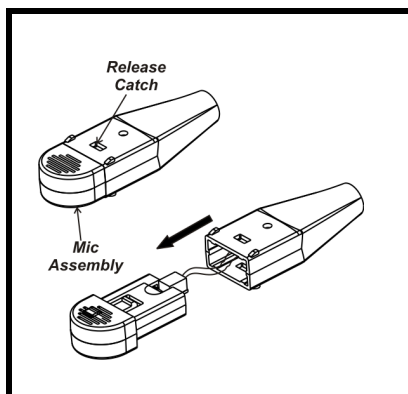

FIGURE 7. Mic Element Replacement
7. **For mic replacement**, press the release catch and carefully pull out the mic element. Avoid pulling the connecting wires. See Figure 7.